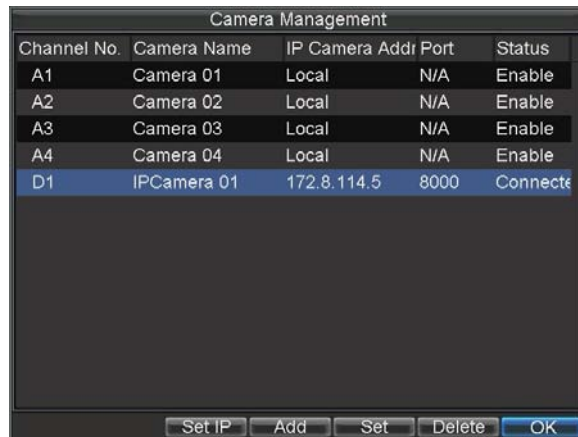

Figure12. Camera Management Menu
1. Click *Menu > Settings > Camera Management* menu, shown in Figure 12.